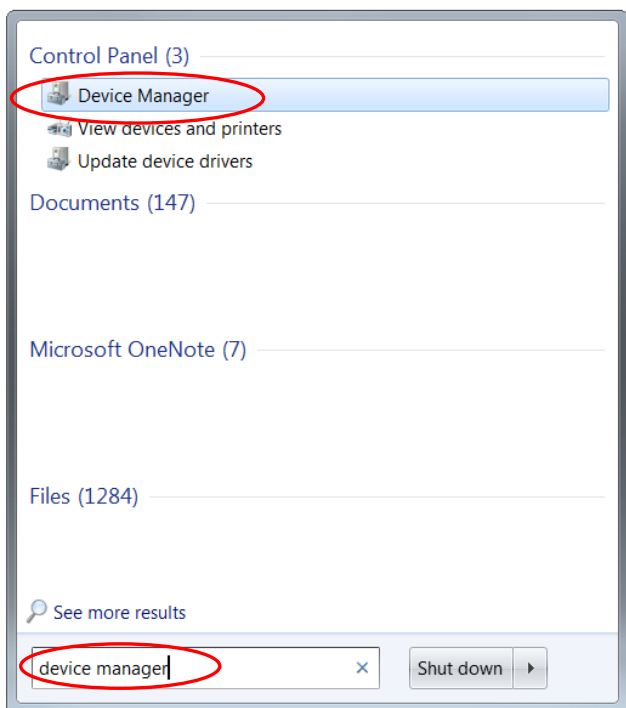

Figure 2
6. Identify the USB COM port used by the TCSMCNAM3M002P. To do so, connect the cable at both ends, click the Start menu on your PC and search for “Device Manager”, as in Figure 2. Open the Device Manager, then, click on Ports (Com & LPT) and read the number of the port “TSX C USB 485”: In the example below, it is **COM12**, as in Figure 3.